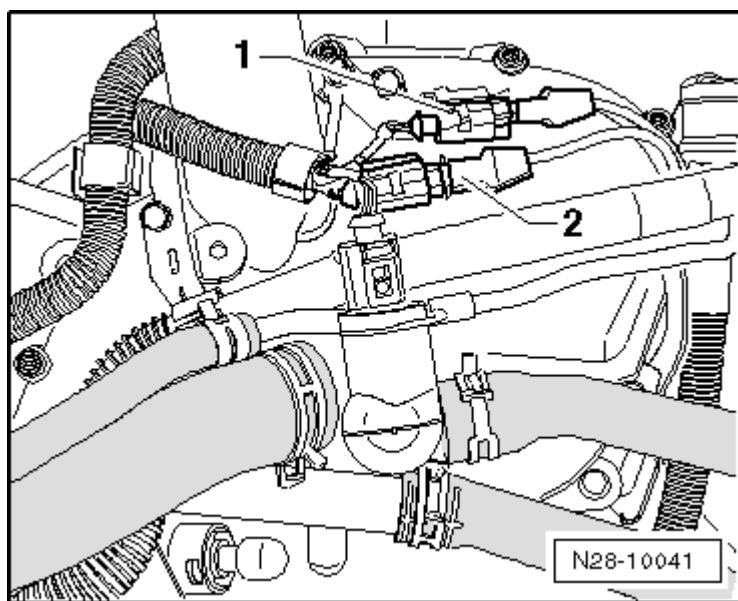

Fig. 8: Installation Position Of Harness Connectors For Knock Sensors
- Installed position, refer to **Fig. 8**.